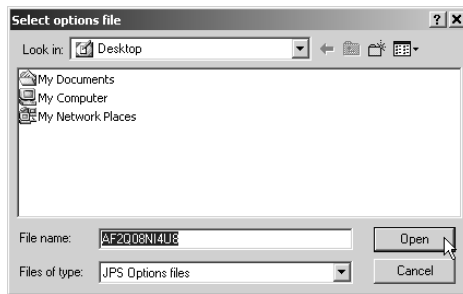

Figure 4-14. Load OAF
3. Navigate to the location of the new Option Authorized File. OAFs have .jpo or .tpo extensions and are unique to each receiver (Figure 4-14).
4. Select the appropriate file and click **Open** (Figure 4-14). The new receiver option loads onto the receiver and the Option Manager table updates.